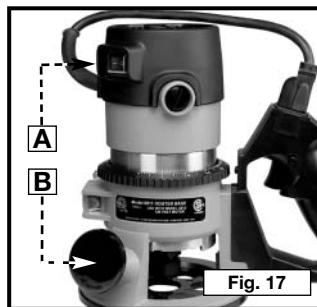

Fig. 17
3. Rotate the motor unit into the base CLOCKWISE until the motor switch (A) Fig. 17 is directly above the knob handle (B) Fig. 17.
4. Connect the motor unit cord to the outlet in handle (C) Fig. 17.